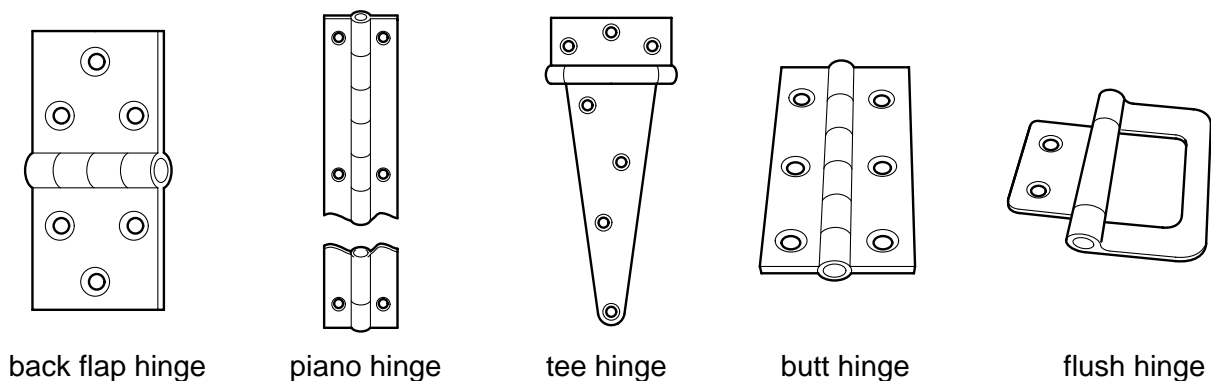

Fig. 9
- (e) Fig. 9 shows a range of hinges.